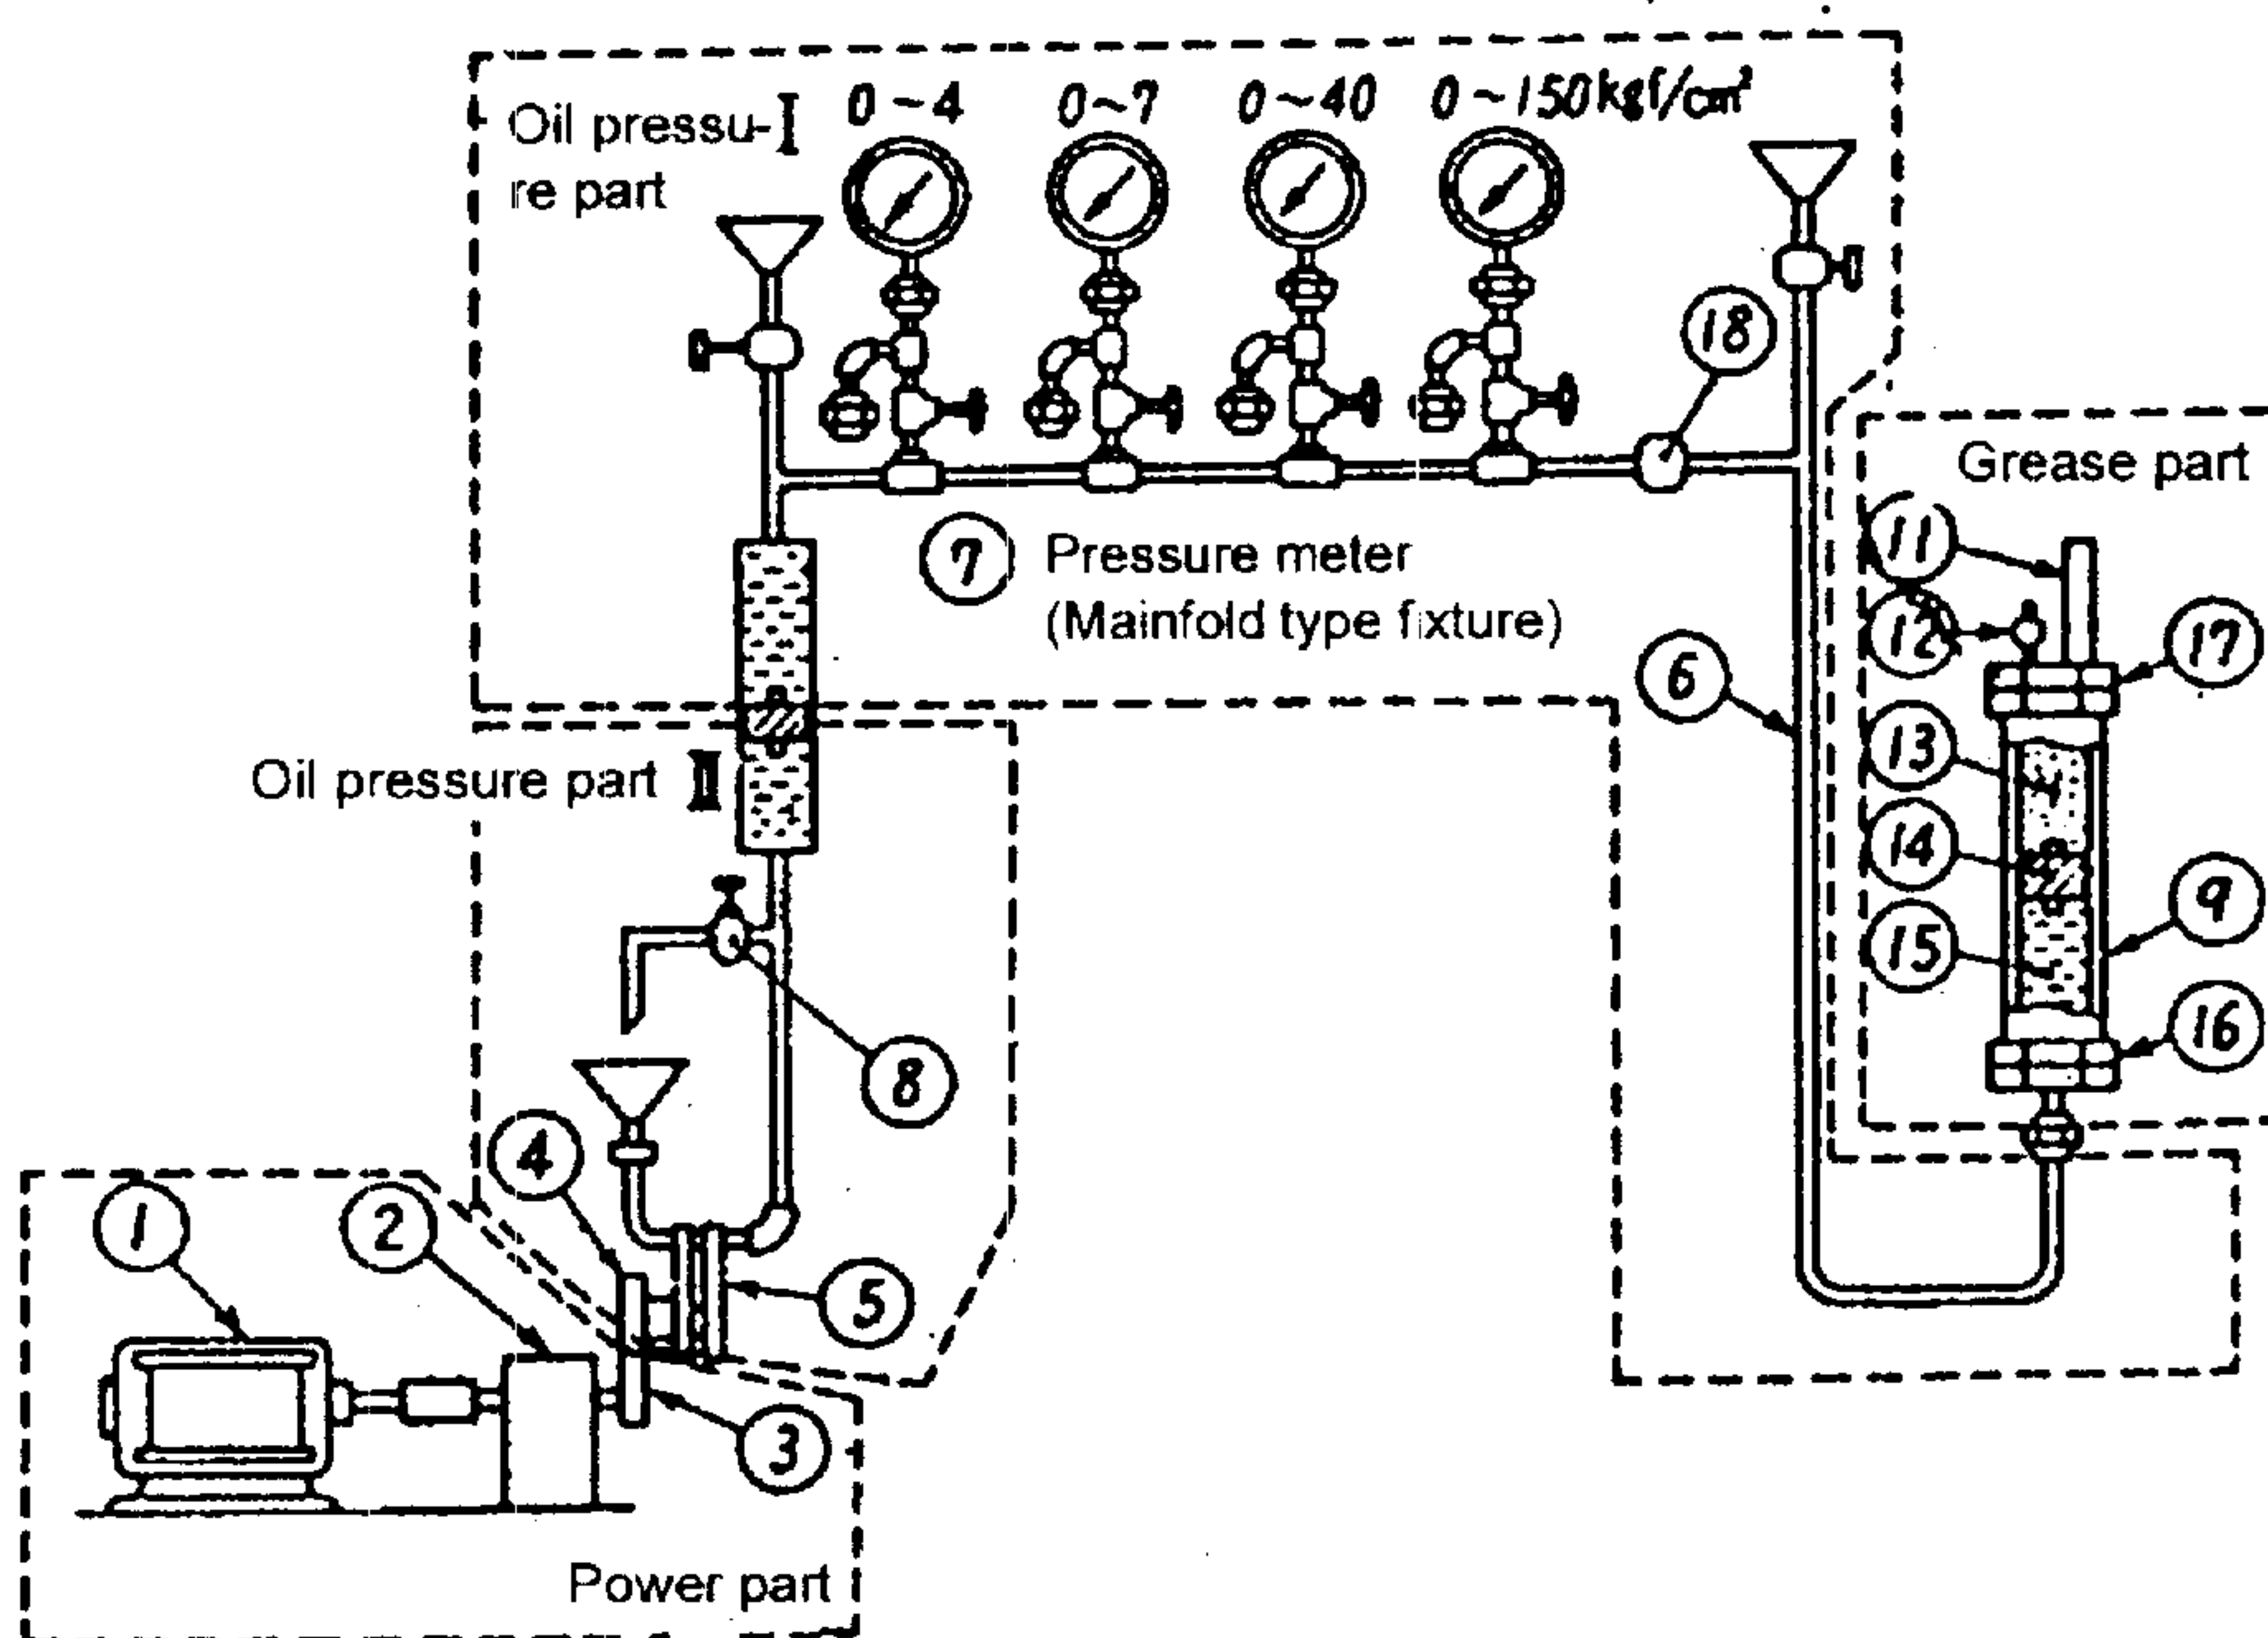

Fig. 2
(2) Manometer : This should have span of $0 \sim 4 \text{ kgf cm}^2$ $\{0 \sim 0.39 \text{ Mpa}\}$, $0 \sim 7 \text{ kgf / cm}^2$ $\{0 \sim 0.69 \text{ Mpa}\}$, $0 \sim 40 \text{ kgf / cm}^2$ $\{0 \sim 3.92 \text{ Mpa}\}$, $0 \sim 150 \text{ kgf / cm}^2$ $\{0 \sim 14.7 \text{ Mpa}\}$.
(3) Oil pressure measuring pipe : This shall be pipe supplying oil pressure from oil pressure unit in grease cylinder and have manifold and circulating valve.
Manometer manifold shall be as figure ① and manifold type as figure 2 shall be good as unit type at the place of 1.